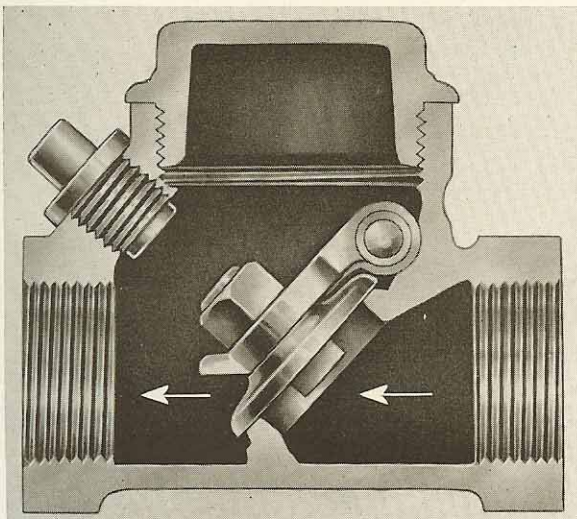

FIGURE 3-8
30. PRIMING RAW-WATER PUMP: If the raw-water pump is above the level of the water line, it will have to be primed or filled with water to start. Usually the pump is below the water line so that water will automatically fill it if the sea valve is opened. In any event, a swing-check valve shown in Figure 3-8, in the suction line allows water to flow in but not back out of the suction line, so the pump should stay full of water during all but long lay-ups.